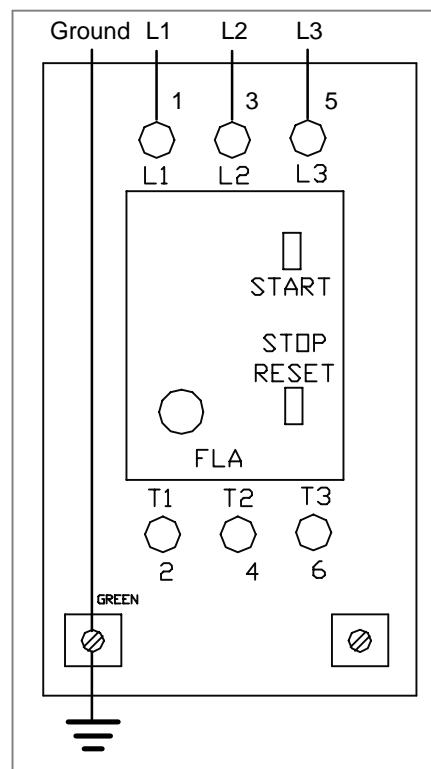

Figure 15
2. Insert line cord through grip (W) and tighten nut.
3. For correct three-phase motor shaft rotation, connect line phase sequence L1, L2 & L3 to terminals as shown (Figure 15).
NOTE: The motor ground wire is also attached to left terminal marked \perp (Figure 15).
4. Attach ground wire to lower left terminal marked \perp (see Figure 15).